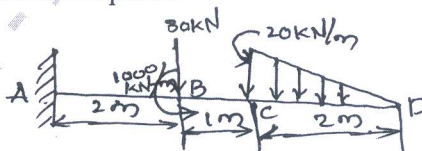

Fig.Q5(a)
- 5 a. Draw shear force diagram and bending moment diagram for cantilever beam as shown in Fig.Q5(a) locate contraflexure point.